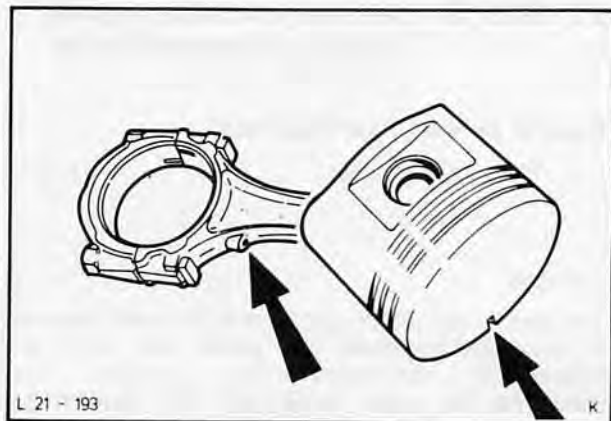

Fig. 222. Relationship of front marking and connecting rod bore
4. During fitting front markings on piston and connecting rod should be positioned in relation to each other as shown in Fig. 222.